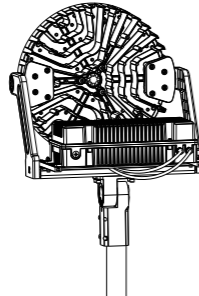

Figure 11
- 2: Place the bracket into the pole and lock the four bolts. (Figure 11)